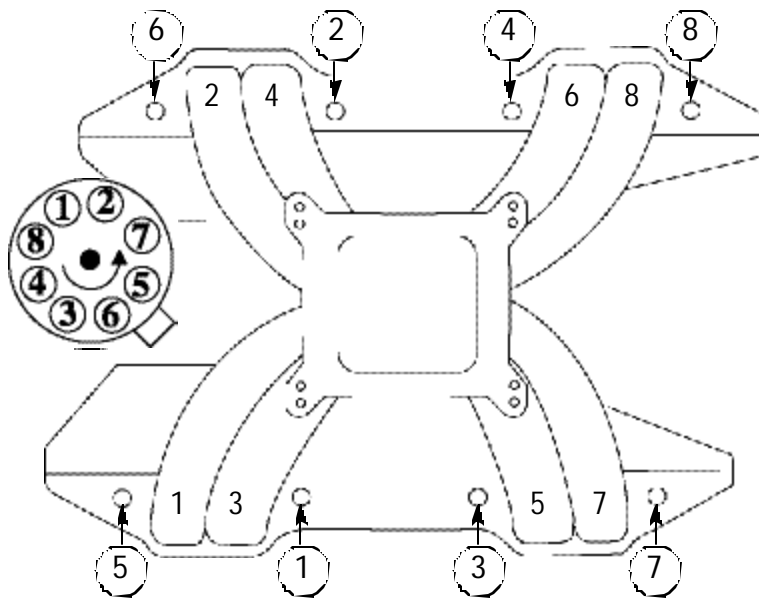

Figure 1 - 400-426-440 c.i.d. Chrysler Intake Manifold Torque Sequence
5. Install the intake manifold and hold-down bolts. Torque all of the manifold bolts in two steps by the sequence shown in Figure 1 to 25 ft/lbs.
6. See Figure 1 for Firing Order and Cylinder Numbering.